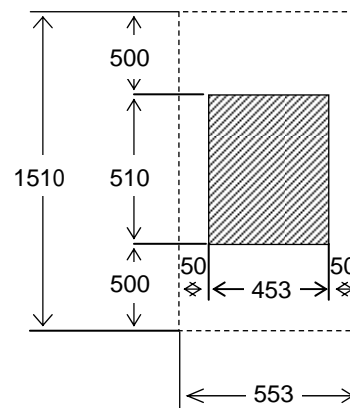

Figure 3-1 Maintenance Space (Unit: mm)
3. Leave the spaces as shown in Figure 3-1 to make the following maintenance processes easier.